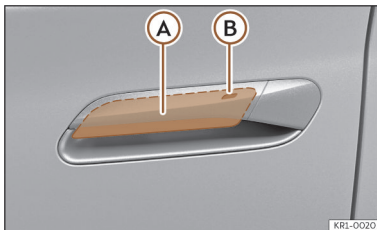

Fig. 69 Driver door lever: sensor surfaces.
>>> **Fig. 69**
- Touch the sensor surface >>> **Fig. 69 B** on the outside of the door handle. All turn signals flash once.
- Within 5 seconds, touch the sensor on the outside of the door handle once >>> Fig. 69 . Do not grip the handle while doing so. This temporarily deactivates the Keyless Access system.